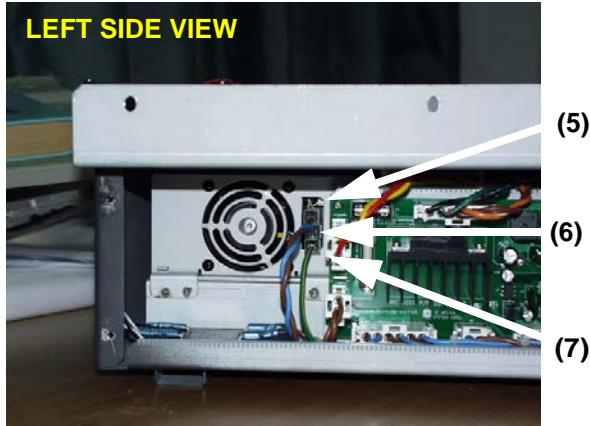

Figure 8-174 Disconnect 3 connectors
- 1.) Unscrew four (4) screws (1-4) to remove Left side cover of AC Power assy.
- 2.) Disconnect three (3) connectors (5-7) from the rear side of the LV Unit. Refer to Figure 8-174.